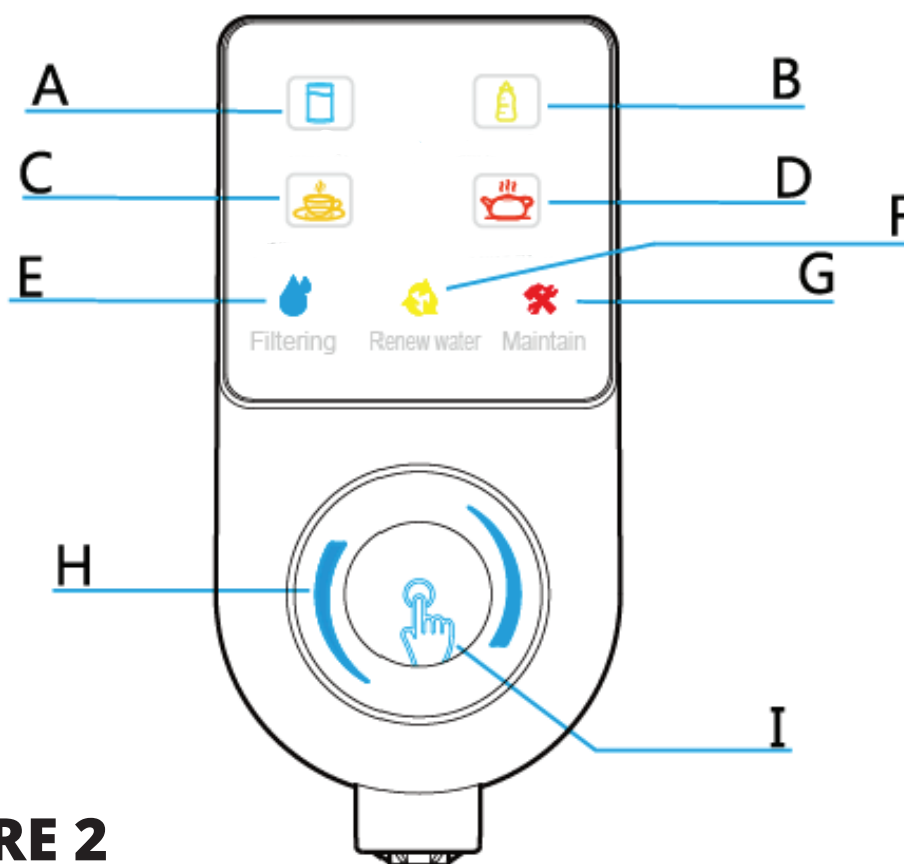

FIGURE 2
- After the setup, the machine automatically enters the flushing state and works for 120 seconds. In the flushing state, the filtering symbol of the display interface light will be on (see Figure 2).
- After flushing, the machine automatically enters the filtering state. The filtering symbol on the display interface light will be on (see Figure 2).